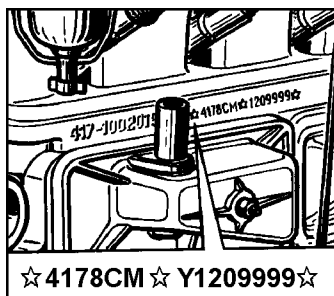

Fig. 10. Location of engine number
**The engine number** (Fig. 10) is indented on the l.h. side of the cylinder block.